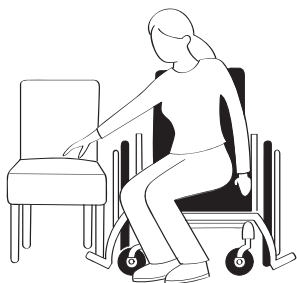

Figure 6.1 Transferring to and from other seats.
- 1 Position the wheelchair as close as possible along side the seat to which you are transferring, with the front casters pointing toward it. See Figure 6.1. Engage wheel locks. Shift body weight into seat with transfer.